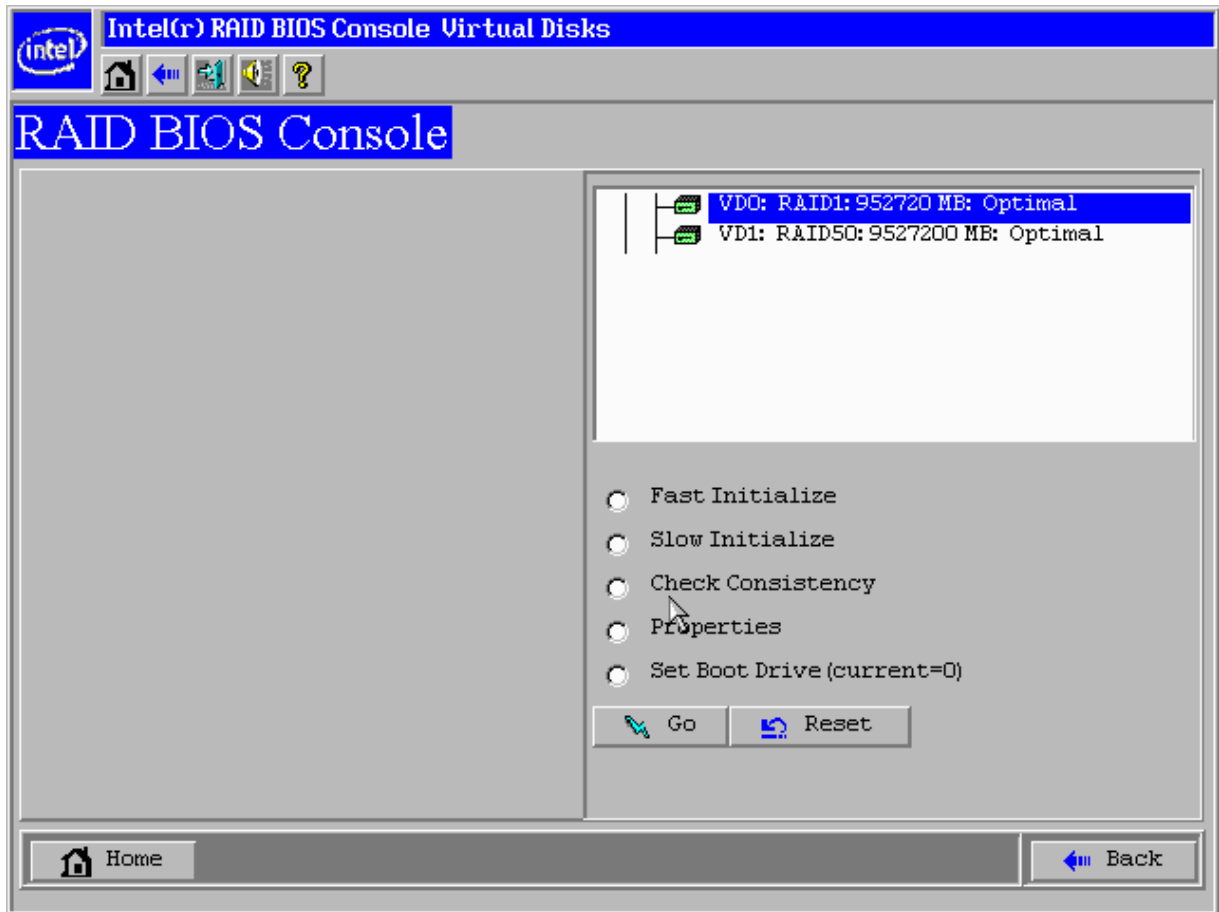

Figure 34. RAID BIOS Console Virtual Disks Screen
28. Wait until the initialization completes (see Figure 34), and Click **Home**.